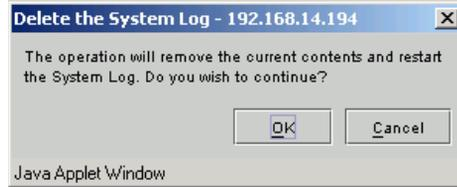

Figure 7-7 Delete the System Log
5. Choose *File>System Log>Delete* to display the *Delete the System Log* dialog box (Figure 7-7). Use this dialog box to empty the contents after you retrieve the contents of the *System Log* from the SAN Router.